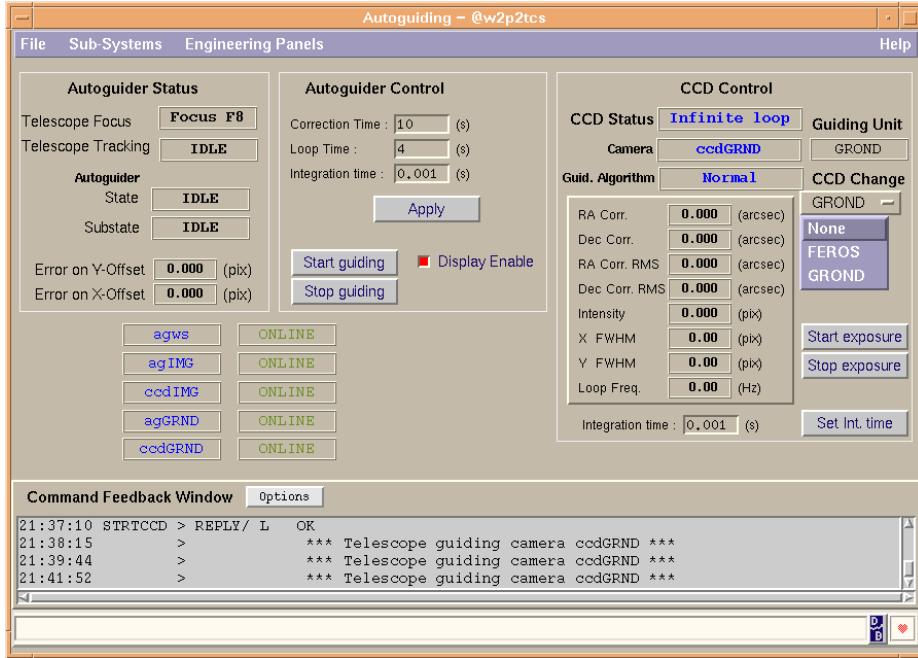

Figure 2.5: Switching between **GROND** and **FEROS** guide camera.
- b. Select GROND below `CCD change` (see Fig. 2.5, p. 32)
- b. Select FEROS below `CCD change` (see Fig. 2.5, p. 32)
Check that the **GROND** and **FEROS** guide cameras work by switching between them on the **AG** window (see Fig. 2.5, p. 32). The switching should set the camera in CCD status Infinite loop. It may be necessary to click on Start exposure after switching to obtain this status. If status is Fail, the camera must be restarted (see Sect. 10.2, p. 75).